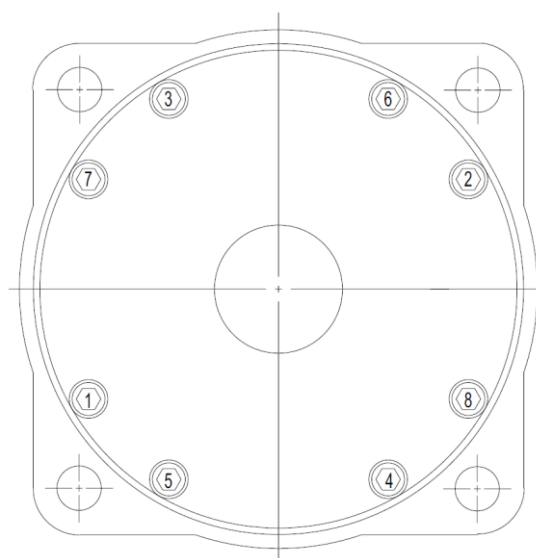
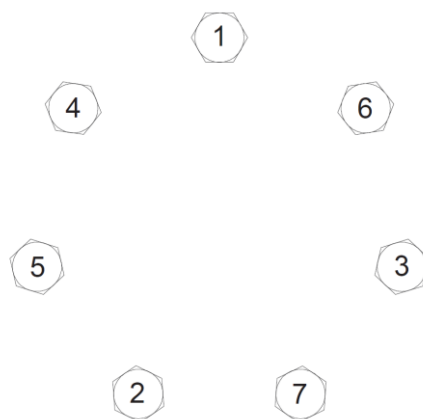

Figure 2
Figure 3
- A. To aid in reassembly of the motor, make a “V” shaped set of lines from the endcover to the housing using either paint or a marker. With shaft facing down, secure motor in vise by clamping on to housing (15).
- B. Loosen and remove seven bolts (34) holding motor assembly together. Remove endcover (32) carefully as piston (30) and spring (31) may fall out. If piston does not come out, carefully pry piston (30) out of endcover (32) and lay aside. Remove O-Ring seal (13) and backup seal (14) from endcover and discard seals. Remove spring (31) and lay aside.
- C. Lift commutator container and commutator (29) from motor and lay aside. Place the commutator on a flat, clean surface with the seal (12) facing up. Place the tip of a small screwdriver on the seal (12) and gently tap until the opposite side of seal lifts from groove. Remove seal (12) and discard.
- D. Remove manifold (28) and rotor set (27). Remove all seals (10 & 11) from components and discard. (Caution- Do not allow rolls to drop from rotor assembly (27) when removing rotor assembly from motor.) Remove drive link (26) from motor and lay aside.
- E. Put the housing assembly into an arbor press with the shaft facing down. Lower the press to apply downward pressure on the rear housing (23) and lock the press in place. Loosen and remove the eight capscrews (24) holding the rear housing (23) to the front housing (15). Slowly release the press to allow spring pressure to push the rear housing (23) from the front housing (15). Remove the rear housing (23) and lay aside. (NOTE: Bearing (16) and spacer shim(s) (22) may fall out of rear housing (23).) If no arbor press is available, place front housing in a vise with pilot on housing facing down. Remove the eight capscrews, turning each screw 2 turns following the bolt pattern shown in figure 2 until the springs are fully released. Then remove all screws.
- F. Remove springs (21) and shim (33) from front housing (15) and lay aside. Remove housing (15) from arbor press and place on a clean, flat surface with output end of shaft (35) facing up. To remove piston (20), friction disks (17) and disk stampings (18 & 19), firmly grasp output end of shaft with a rag. Raise housing assembly a few inches above work surface and firmly strike housing assembly on work surface until piston and disks drop from housing assembly. Lay piston (20) and disks (17, 18 & 19) aside.
- C. Install springs (21) on top of shim. Install O-Ring Seal (9) in rear surface of housing (15). If rear shaft bearing (16) and spacer shim(s) (22) came out of rear housing (23), reinstall at this time by placing spacer shim(s) (22) into rear housing (23). Install rear shaft bearing (16) making sure that snap ring that retains bearing rolls faces out. While holding bearing into rear housing, place rear housing (23) onto front housing (15) lining up bolt holes. While holding the motor assembly together, remove the motor assembly from vise and place in arbor press. Press down on rear housing (23) until it contacts front housing (15) and lock press. Install eight capscrews (24) and torque to 61 Nm [45 ft. lbs.]. If no arbor press is available, place front housing in a vise with pilot on housing facing down. Screw in the (8) capscrews until they engage the threads in the housing (15). Then turn each screw 1/2 turn at a time following the bolt pattern shown in figure 2 to evenly tighten down the rear housing (23) until it contacts the housing (15). Then torque the screws to 61 Nm [45 ft. lbs.].
- D. Install drive link spacer (25) in shaft. Install drive link (26) into end of shaft with tapered end facing up. Place body seals (10) in grooves in both sides of rotor (27). Place rotor (27) onto rear housing (23) with side of rotor with chamfer in splines facing rear housing (23). Place manifold (28) over rotor (27) with seal groove side up. Install manifold seal (11).
- E. Install the commutator seal (12) into the commutator (29) with the metal side facing out. Use finger pressure to press the seal down flush with the surface of the commutator. Place the commutator container onto the manifold (28) and then place the commutator onto the protruding end of the drive link (26) making sure that the seal side faces up.
- F. Install the remaining body seal (10) in the groove in the face of the endcover (32). Install piston spring (31) into endcover (32), then the white backup seal (14) followed by the O-Ring seal (13). Lining up the alignment pin with the hole in the endcover, press piston (30) into the endcover (32). While holding the piston (30) in the endcover, lower the endcover assembly onto the motor. Check to make sure that the endcover ports are in their original position.
- G. Install the seven assembly bolts (34) and pre-torque to 13.6 [10 ft. lbs.]. Final torque all bolts to 67.8 Nm [50 ft. lbs.] using the bolt torque sequence shown in Figure 3.